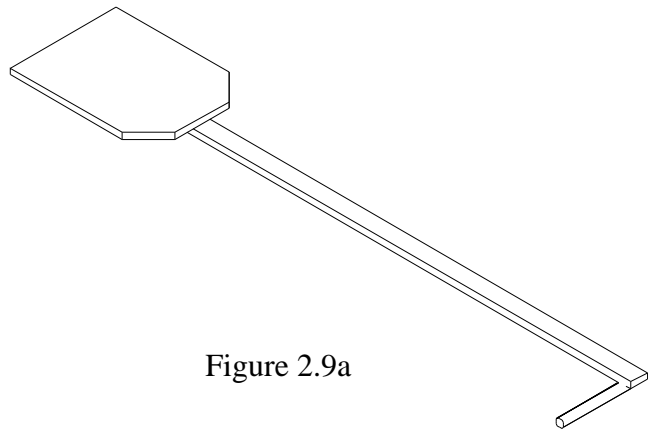
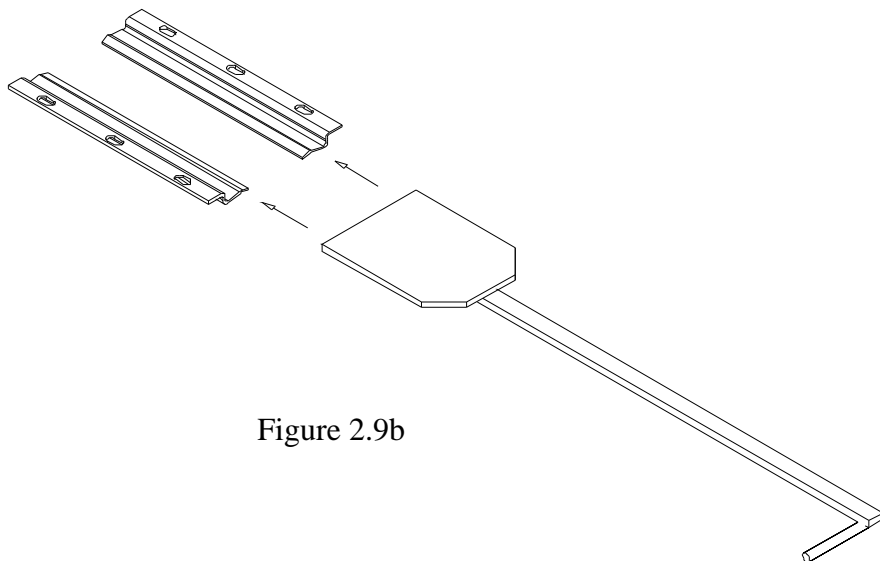

Figure 2.9a
Figure 2.9b
6. Locate air control plate Fig 2.9a (shipped inside firebox). Slide air control into tracks on firebox bottom as indicated in Fig 2.9b.